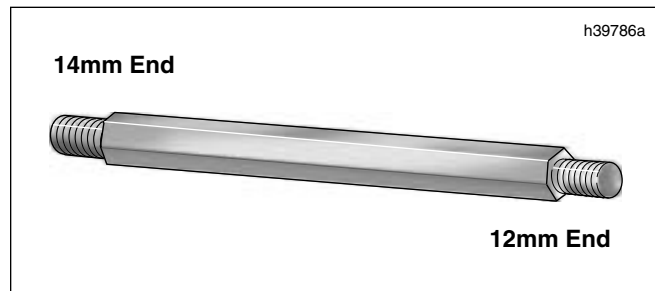

Figure 3-7. Cylinder Head Holding Fixture (Part No. HD-39786)
2. See Figure 3-7. Obtain the CYLINDER HEAD HOLDING FIXTURE (HD-39786) and proceed as follows: